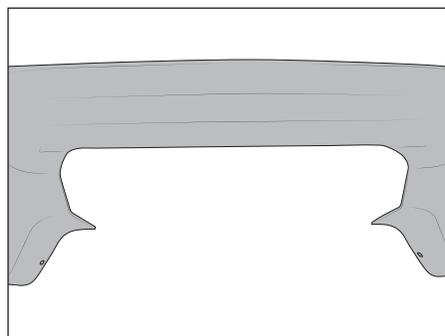

Figure 3
- C. Cut out the center for winch mount as directed on the template (fig. 3).